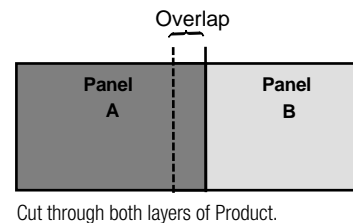

Figure 9. Creating a double cut seam
2. On the Product side where the seam will be, leave 1 inch (2.5 cm) of Product liner on the side of Panel A. See Figure 9.